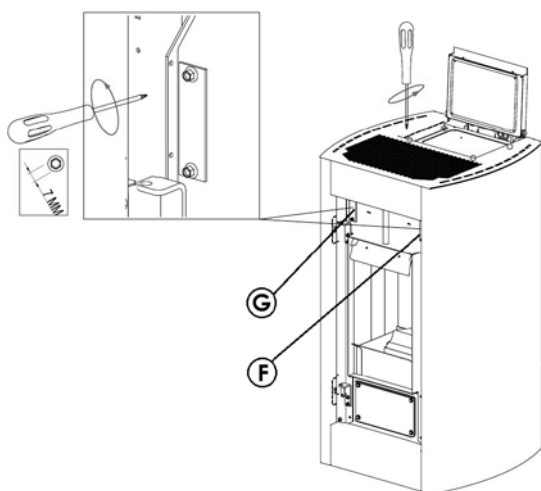

Fig. 38 - Plates removal
- When the stove is cool, remove plate "F" by loosening the two screws (see **Fig. 38**).